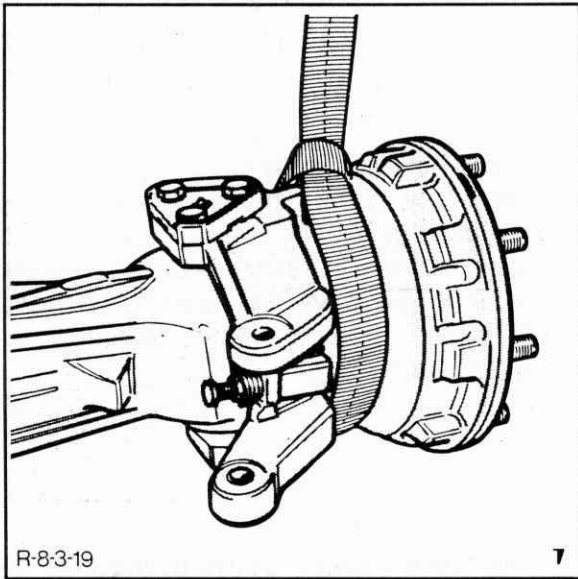

Figure 7-93
4. Support the hub and planetary carrier assembly using a crane and sling, Figure 7-93.